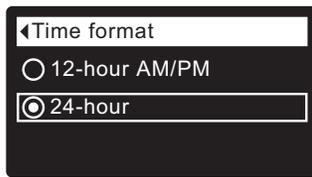

FIG. 56
1. From any of the rolling status screens, press the SELECT (O) button to display the **Main menu**.
3. Press the SELECT (O) button to display the User preferences menu.
5. Press the SELECT (O) button to display the Time format menu (See Figure 56).
6. If the desired time format already has a dot next to it (See Figure 56), go to Step 7. Otherwise, press the DOWN (▼) or UP (▲) buttons to scroll to the other time format, then press SELECT (O) to choose it.
7. Press the SELECT (O) button. The display will go back to the User preferences menu.